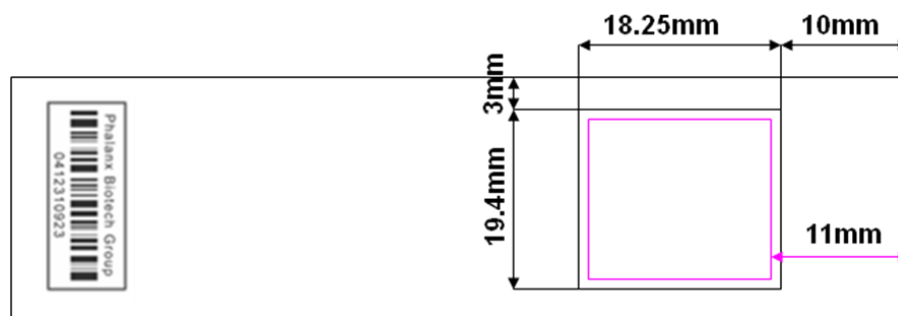

Figure 4: Human miRNA OneArray[®] Microarray Glass Slide with “Probe Printed Region Guide” Plastic Underlay. (One array per slide)
- 10) Place the Human miRNA OneArray[®] slide, bar code up, atop the “Probe Printed Region Guide” (included, see Figure 4).